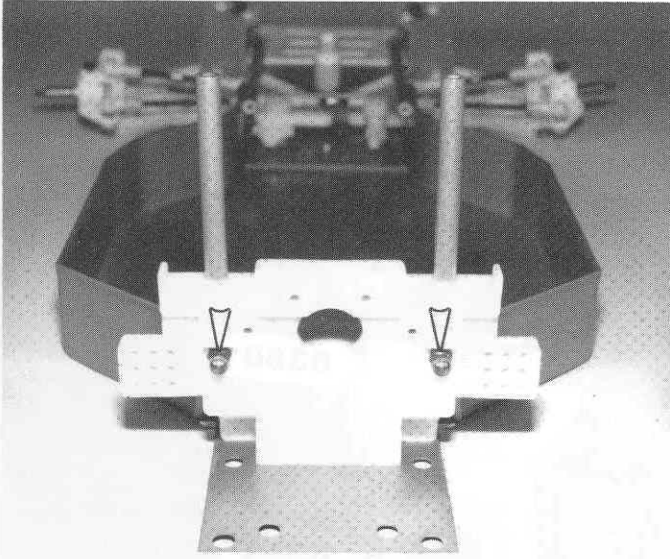

Fig. 101
□ **Fig. 101** Install 2 ball ends into the upper, inner holes, as shown.